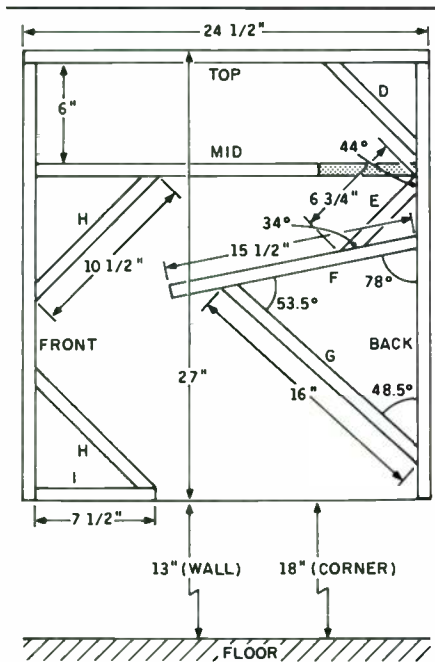
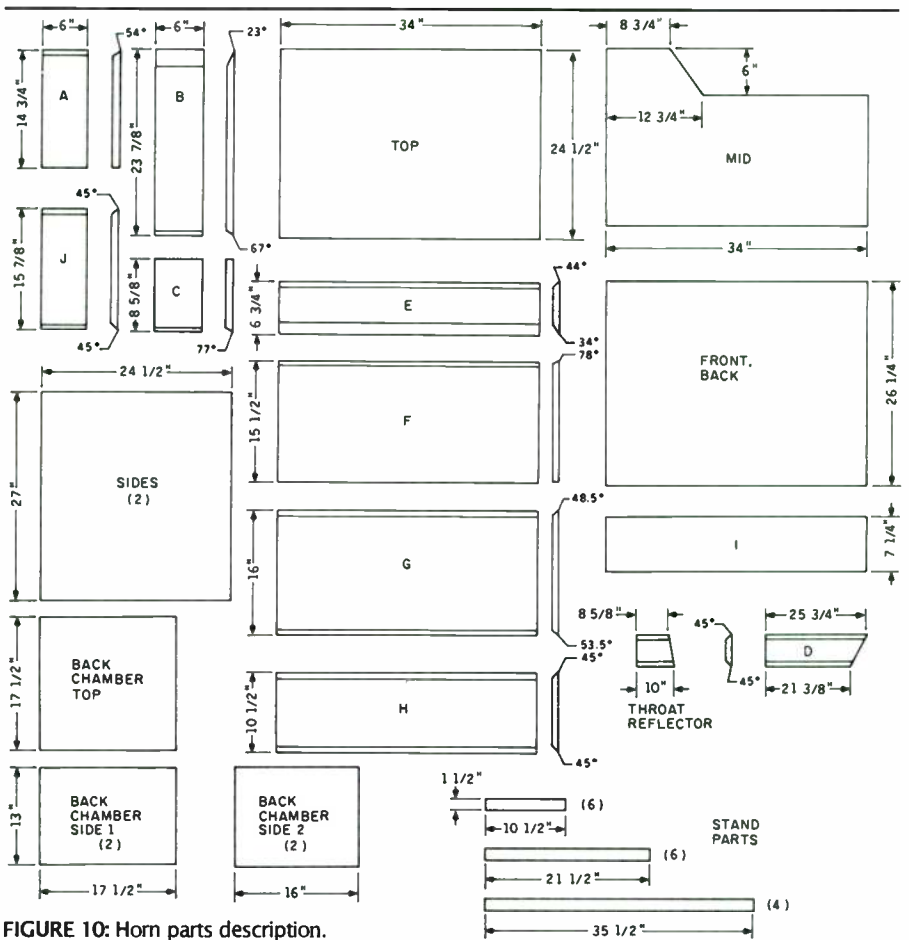
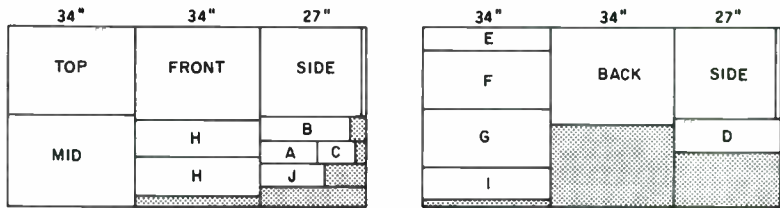

FIGURE 8: Top view of the horn throat manifold.
FIGURE 10: Horn parts description.
FIGURE 11: Sawing guide for 3/4" plywood.
The Monolith's throat manifold layout and side view are shown in Figs. 8 and 9, respectively. The former is similar to the Show Horn; however, with the back chamber on top, you can locate the throat and driver in an optimum position and not have to leave room for the back side duct. With a 15" driver, a top mounting is a decided advantage in reducing the horn's depth. The internal depth
The Monolith can be assembled from two sheets of 3/4" plywood, MDF, or particle-board. I used birch veneer plywood to reduce the weight for shipping. Figure 10 shows the part shapes, with a plywood cutting guide in Fig. 11. The constant-width box design allows for a certain amount of cutting efficiency. If your lumberyard has a good table or plywood saw, have them make the 34" and 27" cuts for easier transportation back to your shop. You can then make the smaller cuts on your table saw. I also recommend redrawing to full scale the plans in Figs. 8 and 9 as a check on sizes and angles. You can also trace templates for the angles from these drawings.
piece A to B," therefore, you have the option of either using screws and glue or screws only. Begin by cutting the partition pieces (A, B, C, and J) and assembling them to the top piece, as shown in Fig. 8 and Photo 2. Draw out to full scale the throat manifold on the top piece to ensure your angles are cut correctly. Once the throat partition pieces are attached, you can cut the throat opening with a sabre saw. A router with a long, flush cutting head will do a nice job of trimming the throat port flush to the edges of A, B, and C.
The duct reflector (D) must be fitted next. This procedure is outlined in the Show Horn article. You first determine the compound angle by cutting and fitting scrap pieces which have the same widths and 45° angles as piece D. Once you have determined the proper saw blade and miter gauge angles, make the same cut on D longer than that specified in Fig. 10. Keep trimming D until it just fits. Attach the duct reflector to the back, top, and side. To further aid construction, you can fit little 45° triangular pieces under D for alignment and attachment points. Next, redraw the locations of the throat partition pieces on the midpiece. Slide the midpiece into the box and blind screw it to the throat partitions, then fasten the sides, back, and front to it from the outside.
surface. While the structure is still flat, mount the E reflector to panel F, as shown in Fig. 10. Using alignment blocks for E is optional. Place the box on its back and slide the divider structure (F, G, and E) into it. Be certain reflector E is touching the midpiece. Attach the divider structure with screws from the sides, then turn the box over and attach it with screws to the back (Photo 11). Attach the H-I reflector to the bottom (Photo 12). Finally, install the throat reflector.
I constructed the stand from square 1 1/2" stock, which I cut by ripping up scrap 2 x 4s. Begin the assembly by clamping the top frame on a flat surface, then screw it together with 3 1/2" wallboard screws. Repeat the procedure for the bottom frame, and join the frames with the leg pieces. I also added corner braces to correct warping (Photo 13). The parts are shown in Fig. 11.